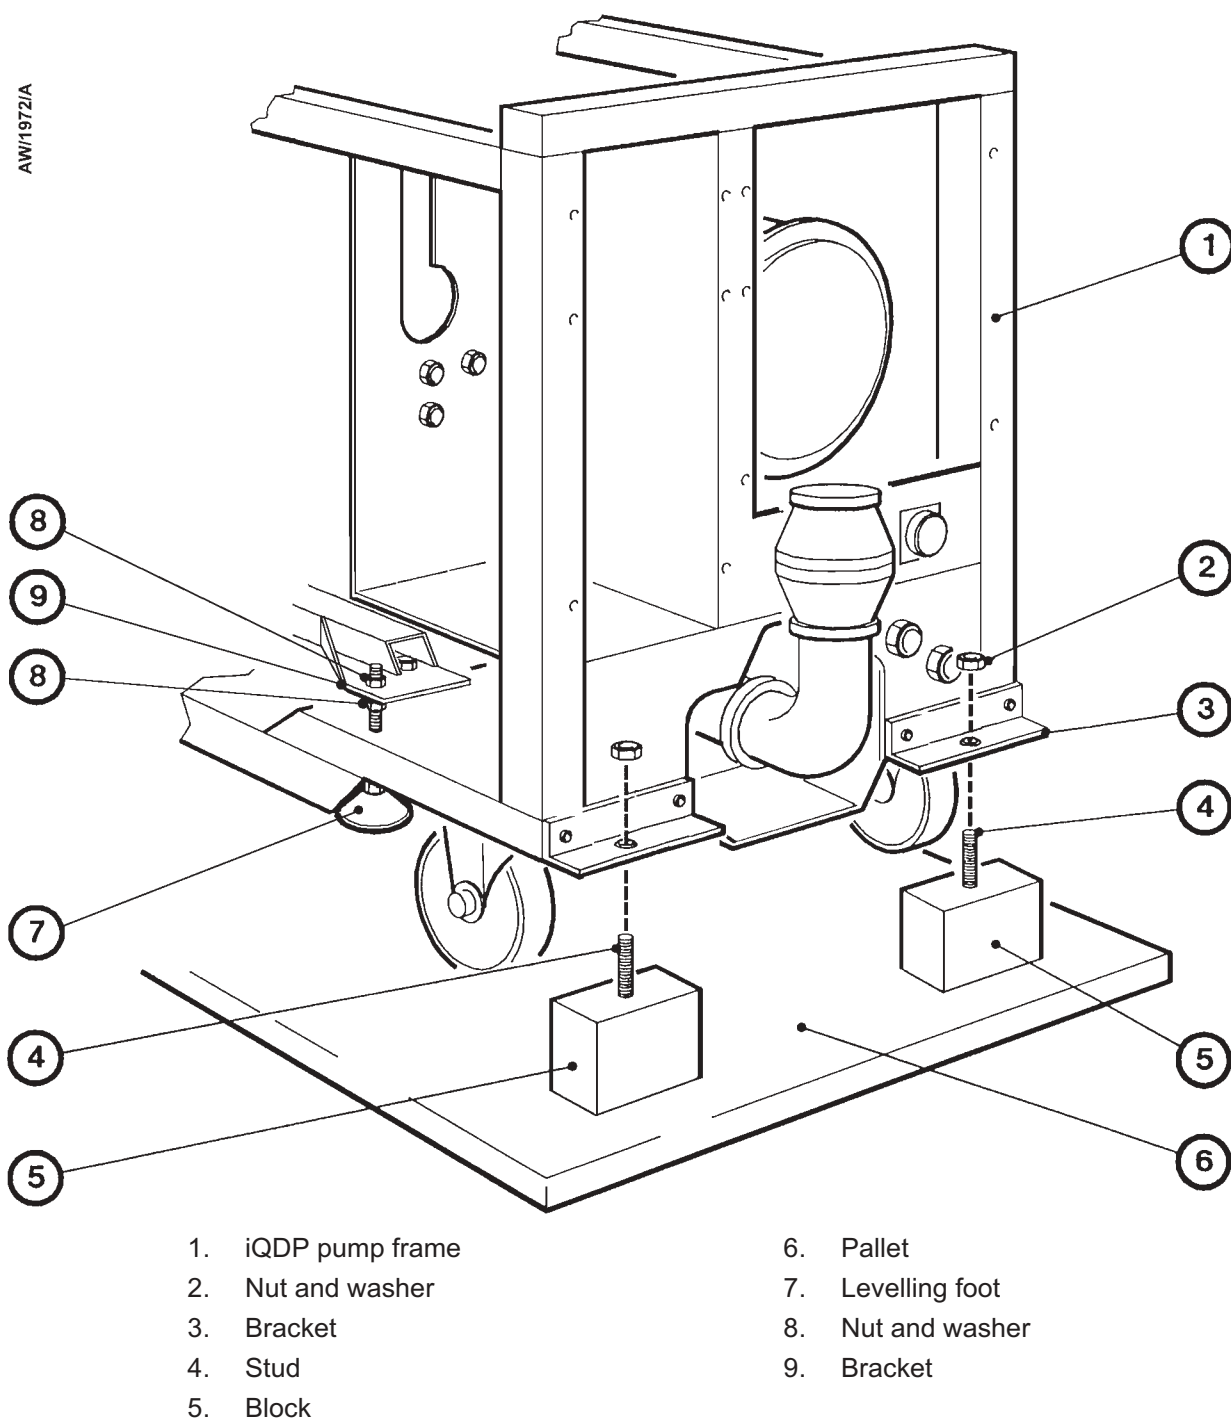

Figure 3-1 - Remove the iQ system from the pallet
3. Refer to Figure 3-1. Remove the two nuts and washers (2) which secure the front of the pump to the pallet. Remove the two nuts and washers (2, not shown) which secure the rear of the pump to the pallet. Dispose of the nuts and washers.
*Note: Refer to Figure 3-1. After you have located the iQ system, if you want to secure the iQ in place to prevent unwanted movement (or example, during an earthquake), fit suitable bolts or studs through the transit brackets (3) and into the floor; alternatively, fit additional suitable restraints (which you must supply) to the four levelling feet (7) or their M12 supports.*
2. Refer to Figure 3-1. Remove the nuts and washers (8) fitted to the top of the four levelling feet (7), then retract the levelling feet.